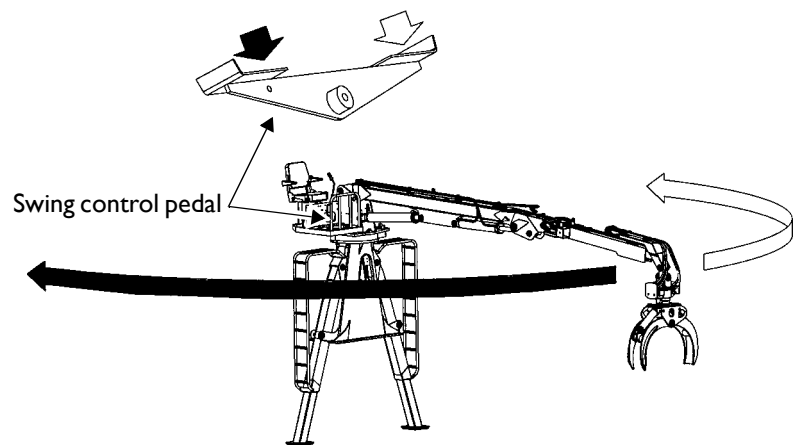

Figure 8
- The loader swings to the **right** when you press the swing control pedal down on the **right** side (see *Figure 8*, below).
- The loader swings to the **left** when you press the swing control pedal down on the **left** side (see *Figure 8*, above).